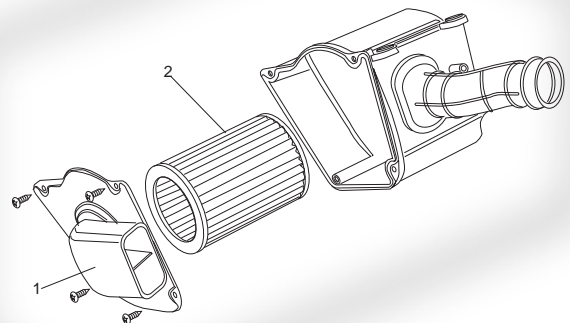

Figure 6
- b. Remove the air filter element 2 (See Fig.6)